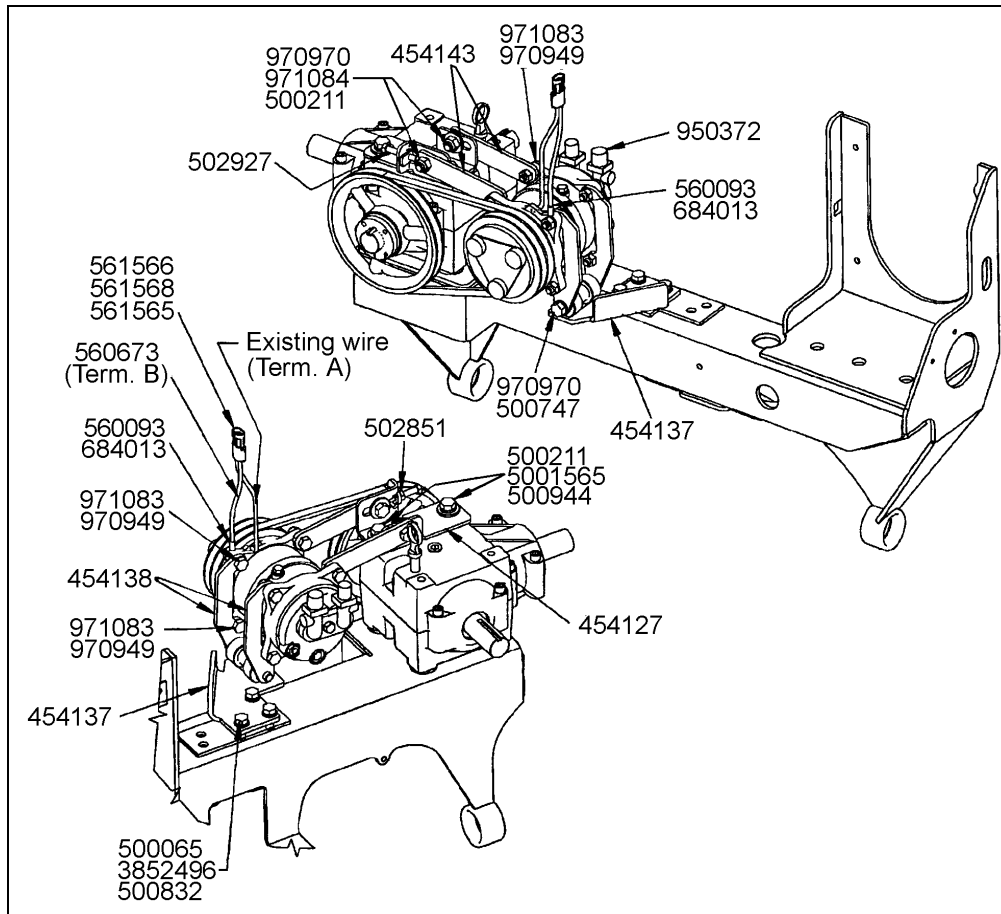

FIGURE 12 COMPRESSOR INSTALLATION
11. Install compressor electrical wires and connect to compressor mounting (Refer to figure 12).